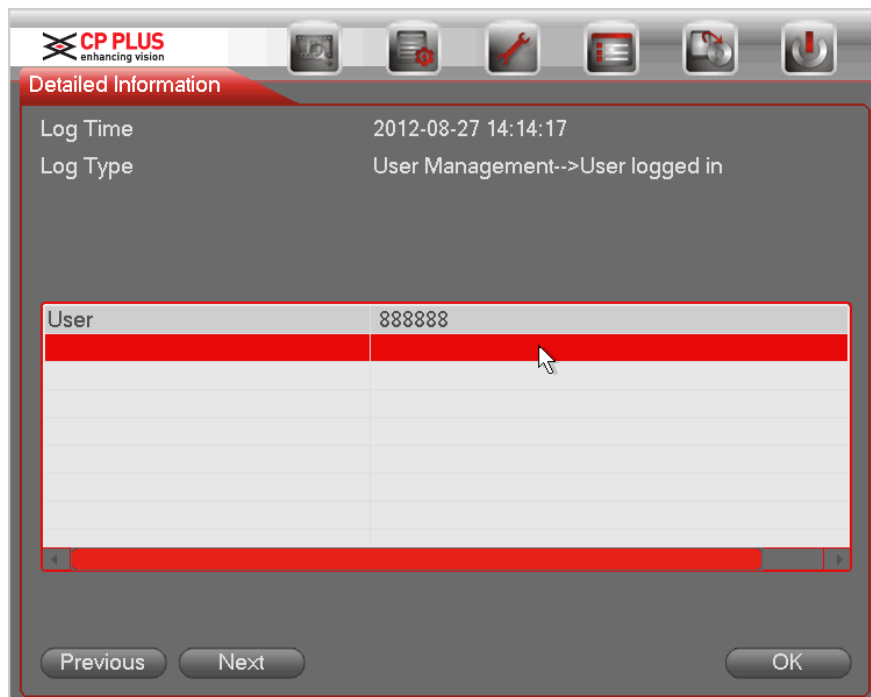

Figure 2-37
- Details: Click the Details button or double click the log item, you can view the detailed information. See Figure 2-37. Here you can use rolling bar to view information, or you can use Page up/Page down to view other log information.
Select an item on the list and then click the Details button or double click the log item, you can view the detailed information such as log time, log type, log user, IP address and etc. See Figure 2-37.